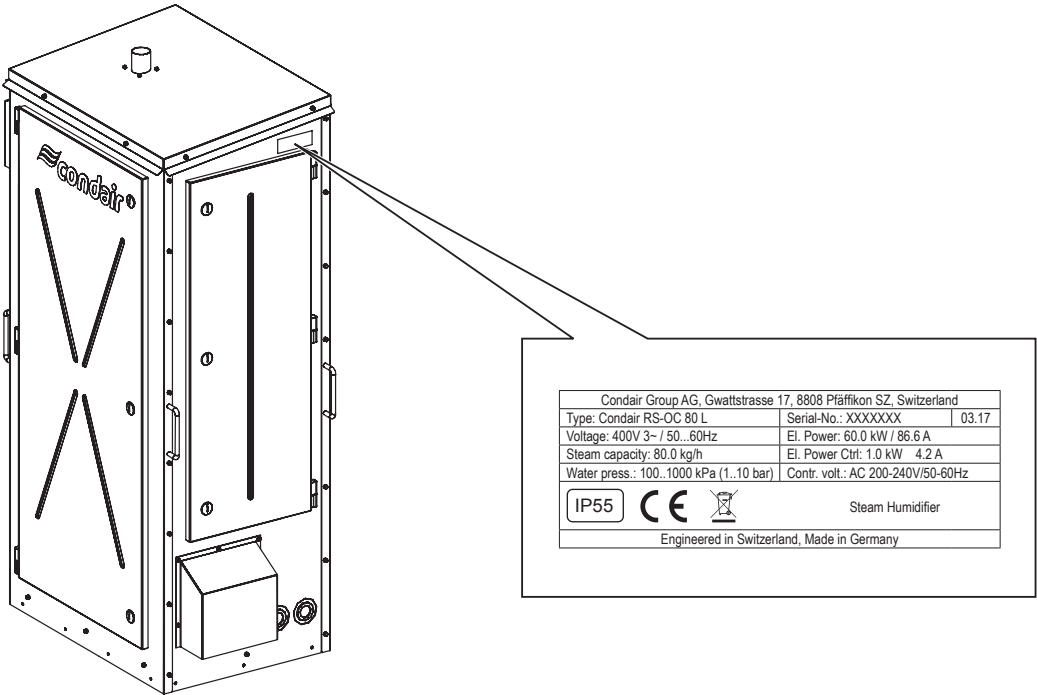

Fig. 3: Condair EL/RS Outdoor Steam Humidifier Specification Label
- Verify the model type, capacity and voltage on the specification label to ensure that it is suitable for your installation site. Refer to Fig. 3.
The specification label on the side of the Condair EL/RS Outdoor Humidifier shows its model number, serial number, and ratings. Refer to Fig. 3. The breakdown of the model number is shown in Fig. 4.